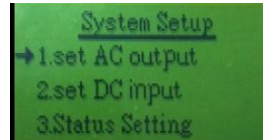
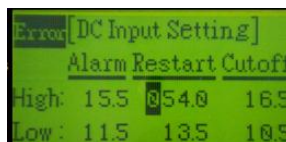

Figure 7: System setting Screen
Figure 13: Error Screen
If successfully enter into system setting mode and disable inverter dip switch S6 will show below figure 7. If you enable inverter dip switch S6, the screen will show item 2: set DC input only and item 1 and item 3 will disappear.
Figure 7 demonstrates the system setup of AC output, DC output and Status setting. Press  or  button to move the arrow to the setup item you want to select. After arrow moves to the setup item you want and press the  button, then you will enter into the setting mode. If you don't change default value and press  button then you will leave the setting mode and go to the system setting screen (see figure 7).
If you want to leave setting mode, please press  button then you will leave the setting mode and system will automatic check any value is changed. If no value is changed, the screen will go back to the system setting screen (see figure 7). If value is changed, the system will automatic check the changing value is correct or incorrect. If the changed value is incorrect, the system will show error on the upper left of screen (see below figure 9).
If you want to leave setting mode, please press ↵ button then you will leave the setting mode and system will automatic check any value is changed. If no value is changed, the screen will go back to system setting screen (see figure 7). If value is changed, the system will check the changing value is correct or incorrect. If the changed value is incorrect, the system will show error on the upper left of screen (see below figure 13).
If you want to leave setting mode, press  button then you will leave the setting mode and system will automatic check any value is changed. If no value is changed, the screen will go back to system setting screen (see figure 7).